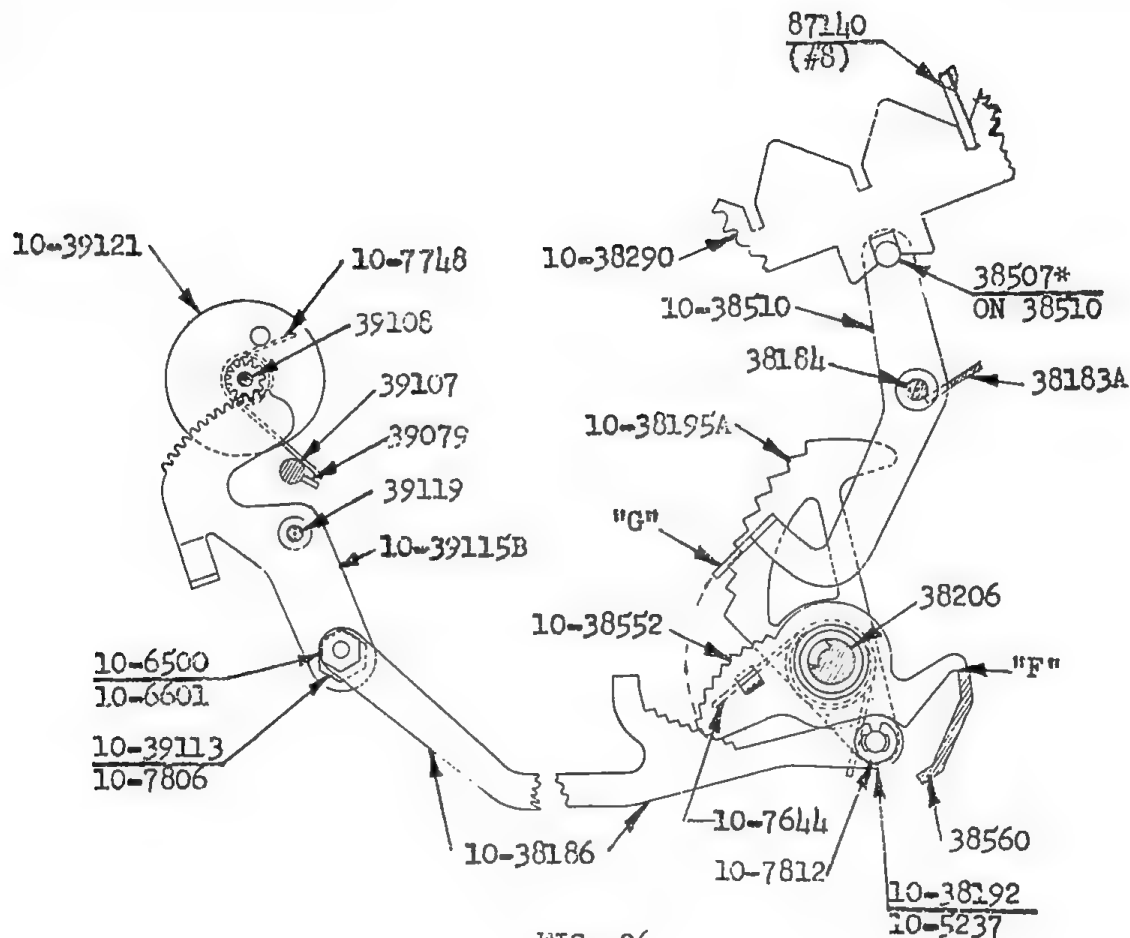

FIG. 26
2. (Fig. 26). When Bail-38560 is released it allows the Multiplier Storage Mechanism under the Keyboard to